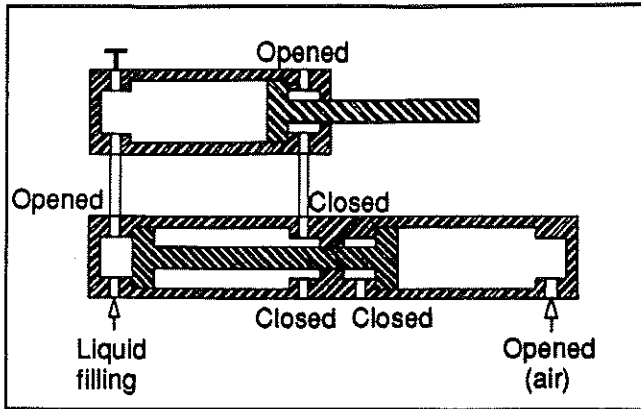

Fig. 4 - Door opened
6. Close the L.H. door cylinder drain cock immediately when the liquid flows into the container, then pump until the door be fully opened, without pressurizing the system. See figure 4.
7. Close the L.H. cock on the master cylinder. See figure 4.